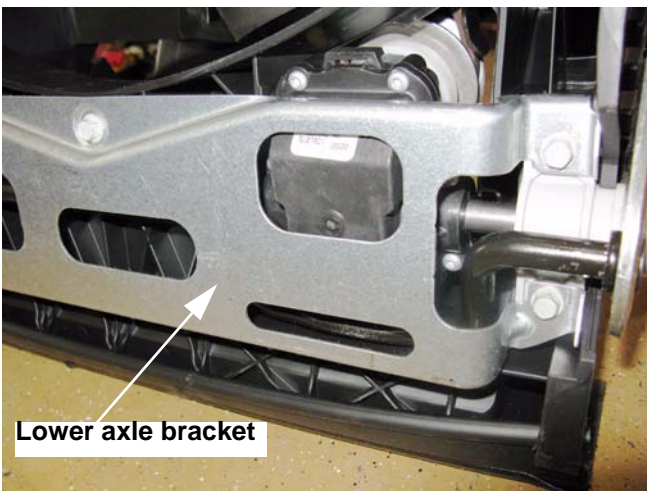

Figure 4.43
10. Position the mower for easy access to the screws that hold the lower axle bracket to the rear baffle. See Figure 4.43.